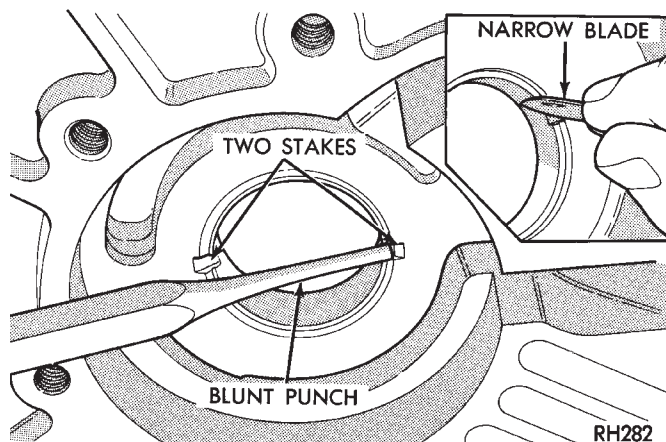

Fig. 124 Staking Oil Pump Bushing
(3) Stake new pump bushing in two places with blunt punch (Fig. 124). Remove burrs from stake points with knife blade afterward.